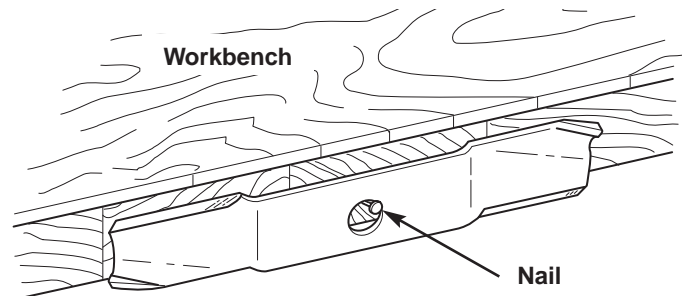

Figure 21. Balancing The Blade
6. Balance the blade as shown in Figure 21. Center the blade's hole on a nail lubricated with a drop of oil. A balanced blade will remain level. If the blade is not balanced, continue to sharpen the heavy side until it balances.